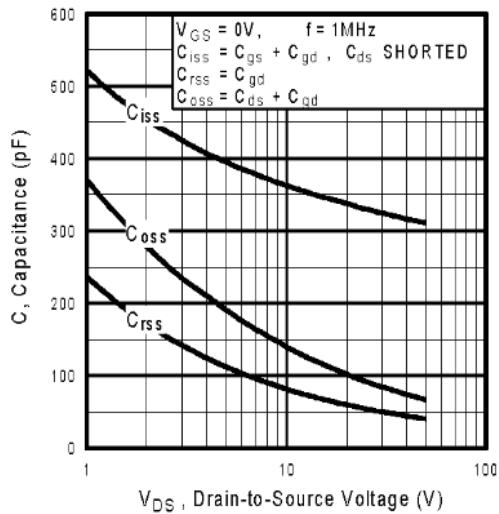

Fig 5. Typical Capacitance Vs.
| C_{rss} | Reverse Transfer Capacitance | — | 54 | — | | $f = 1.0\text{MHz}$, See Fig. 5 ⑥ |